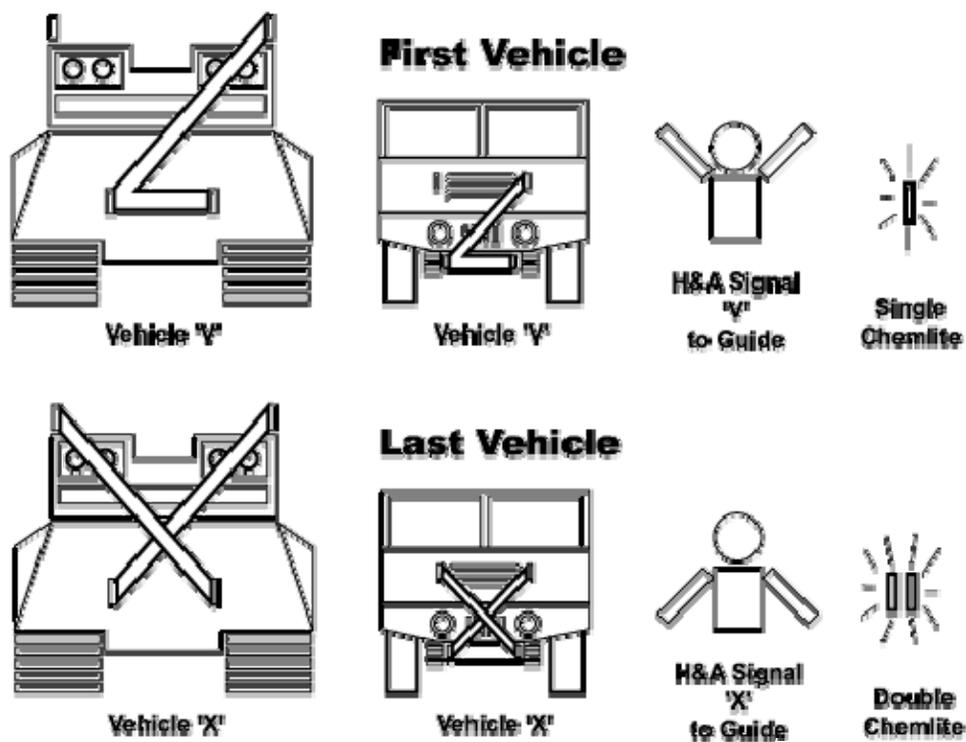

Figure 3-13. Convoy Markings for Passage of Lines.
1. **Vehicle convoys are marked for Passage of Lines.** *See Figure 3-13.*
- c. Standard night convoy markings are also used. *See Convoy SOP.* First vehicle displays a GREEN chemlite on the front hood. Last vehicle displays (2) RED chemlites on the rear bumper.